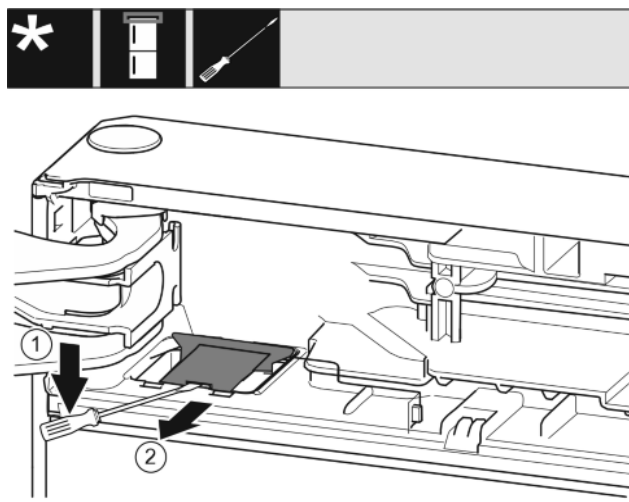

Fig. 8
- Unlatch the cover with a slotted screwdriver and lift it up. Fig. 8 (1)
- Take out the cover. Fig. 8 (2)